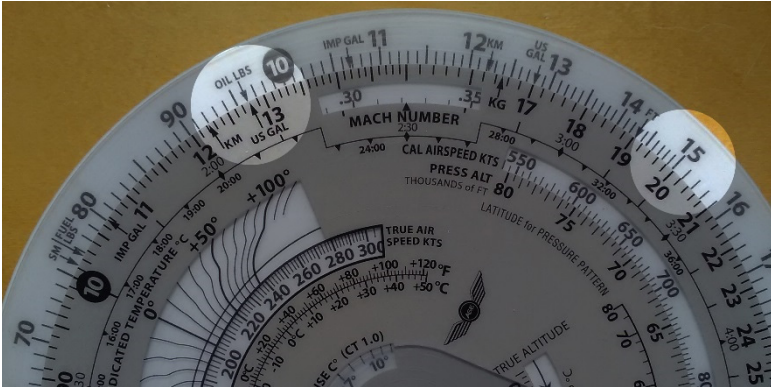

*Fig. 7: Place Fuel LBA arrow above US GAL arrow and read the weight of fuel above total gallons.*
Aviation gasoline (like AVGAS 100LL) weighs 6 pounds per U.S. gallon (see Figure 7).
2. Find 38 on the middle scale and read 224 pounds on the outer scale. Figure 7. Place Fuel LBS arrow above US GAL arrow and read the weight of fuel above total gallons.